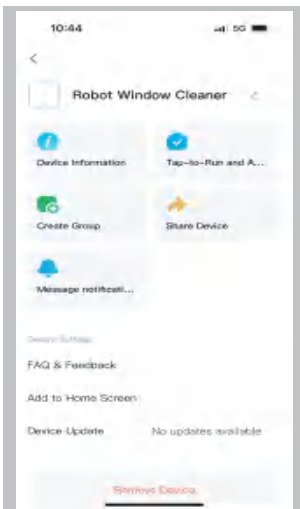

Fig.7
7). Click the icon "✎️" to check more about the robot as Fig.7.